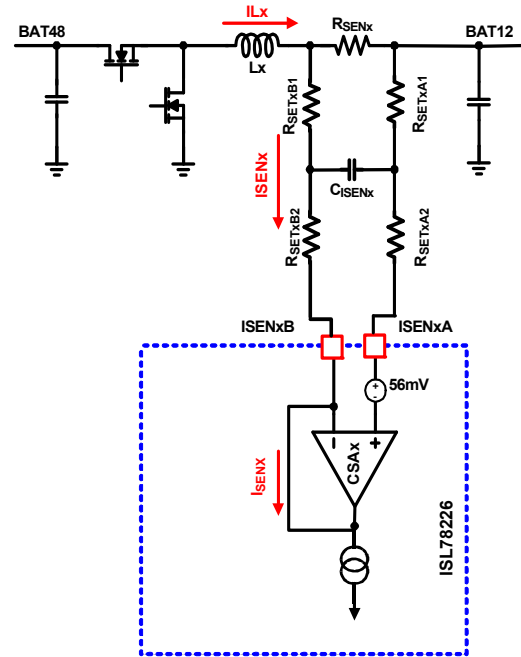

FIGURE 135. CURRENT-SENSING BLOCK DIAGRAM FOR INDIVIDUAL PHASE ISENx
The ISL78226 peak current control architecture senses the inductor current of each phase continuously for fast response. A sense resistor (shunt) is placed in-series with the power inductor for each phase. The ISL78226 Current-Sense Amplifiers (CSA) continuously sense the respective inductor current (as shown in Figure 135) by sensing the voltage signal across the sense resistor RSENx (where "x" indicates the specific phase number and same note applied throughout this document). The sensed current for each active phase will be used for peak current mode control loop, phase current balance, individual phase cycle-by-cycle peak current limiting (OC1), individual phase overcurrent fault protection (OC2), averaged Constant Current Limit (CCL) control, Average Overcurrent Protection (AOCP), Diode Emulation (DE), and Phase Drop/Add control. The internal circuitry shown in Figure 135 represents a single phase and is repeated for each phase.
The RC network between RSENx and ISENxA/ISENB pins as shown in Figure 135 is the recommended configuration. The current gain setting resistor, RSETxB, is RSETxB1 plus RSETxB2 in Figure 135 and that sum should be fixed at 1kΩ.
It is also recommended to have RSETxA = RSETxB and all four resistors as equal in value as standard values allow. Insert a capacitor, CISENx, between them as shown in Figure 135. This will form a symmetric noise filter for the small current-sense signals. The differential filtering time constant equals (RSETxA1+RBIASxB1)\*CISENx. This time constant is typically selected in the range of tens of ns depending on the actual noise levels.